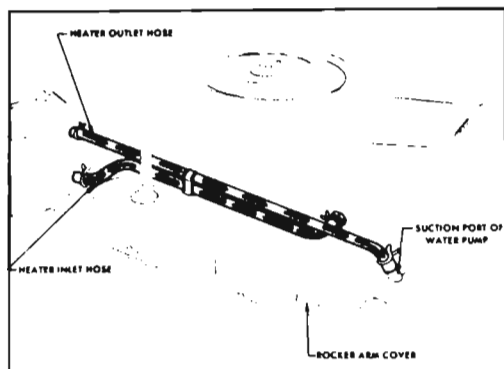

Figure 11-14—Heater Hose Routing
The heater core, located in the heater assembly, has water flowing through it at all times. The water flow begins at the right front portion of the intake manifold (see Figure 11-14) and flows to the lower inlet port of the heater core, thru the heater core, out the upper outlet port of the heater core and to the suction port of the water pump.
3. Heater Control Assembly—The heater control assembly (see Figures 11-14 and 11-15) consists of three controls, namely the temperature control lever, air control lever, and FAN lever. The temperature control lever is connected by a control wire to the temperature door on the heater assembly, and regulates the ratio of mixture between heated and unheated air—hence the temperature of the air. The temperature control lever has three detents: OFF, MED, and HOT.
5. Disconnect heater inlet and outlet hoses from heater core inlet and outlet ports (see Figure 11-14).